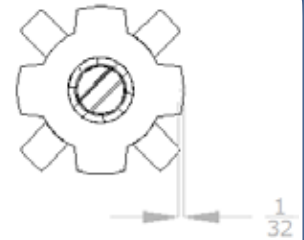

Figure 7
A. Insert the spring (#R5170) into the **CUT** end of the screen tube from Step 4. It may be necessary to trim 1/32" from the thick fingers on the spring end to allow ease of insertion and proper operation (Figure 7). Make sure that the spring is firmly seated before proceeding. Lightly tap end cap (#R6110) onto top of spring in notch provided (Figure 8). Regardless of operation, spring must be installed in the end shown in figure 8.